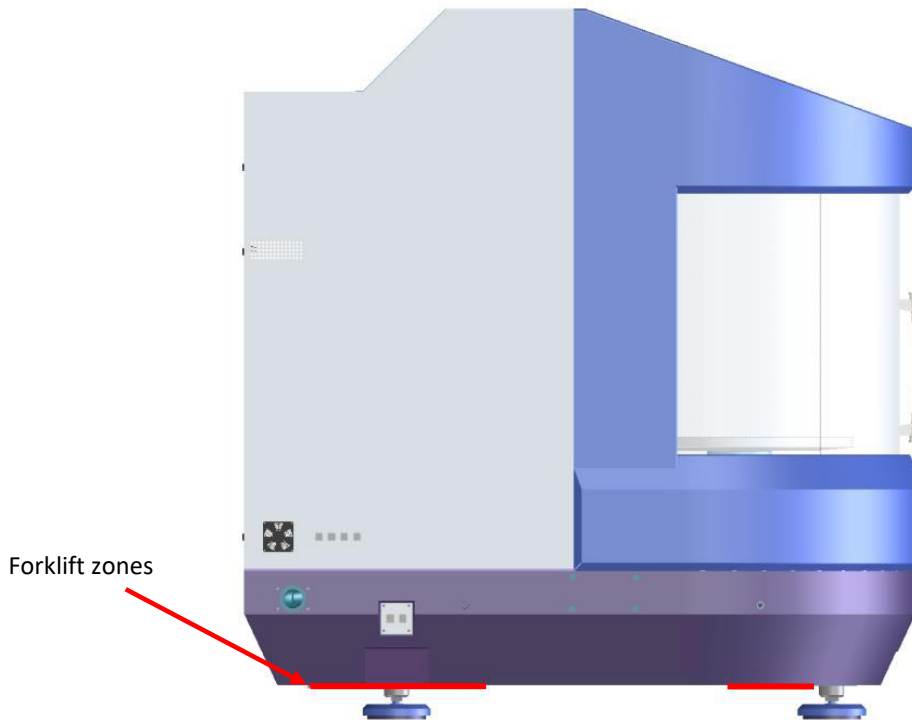

Figure 5 - Forklift zones
ATTENTION: The machine must be lifted in the forklift zones marked in (Figure 5). Risk of Tipping Over!
ATTENTION: Please note the centre of gravity in (Figure 5).
- Move the forks of the lift truck or forklift as far as possible under the machine. See (Figure 5).